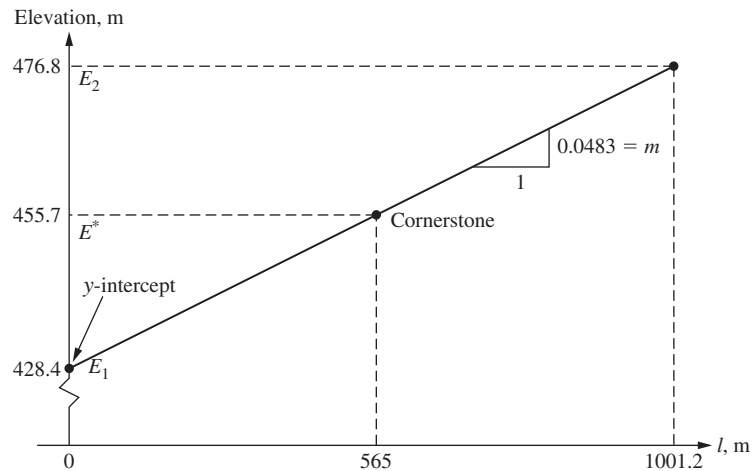

Figure 1.20 Elevation along a uniform grade.
- (c) The plot of the elevation as a function of the length is shown in Fig. 1.20.